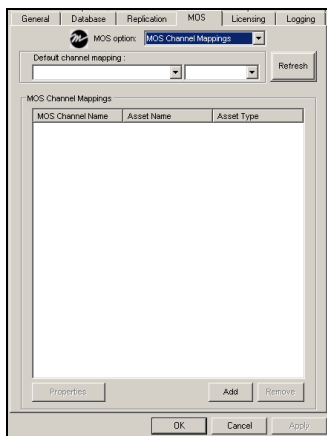

Figure 7-13. Select **MOS CHANNEL MAPPINGS** from the **MOS OPTION** drop-down list
2. Open the **XMEDIA SERVER CONTROL PANEL** and select **MOS CHANNEL MAPPINGS** from the **MOS OPTION** drop-down list (figure 7-13).